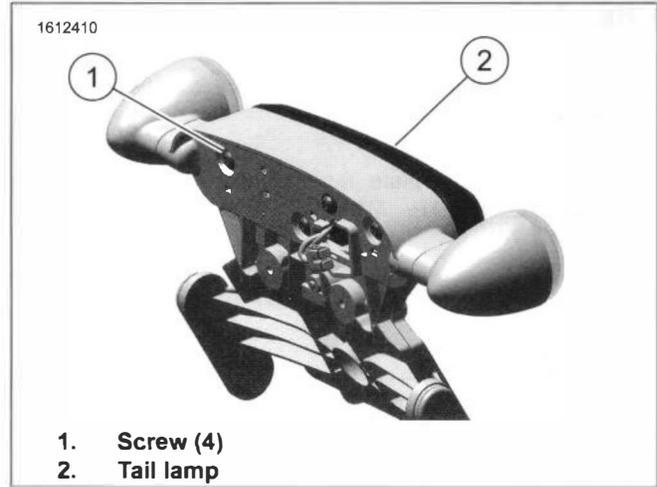

Figure 8-45. Tail Lamp
1. See Figure 8-45. Remove screws (1).
2. Remove tail lamp (2).
1. See Figure 8-45. Install tail lamp (2).
2. Install screws (1). Tighten.